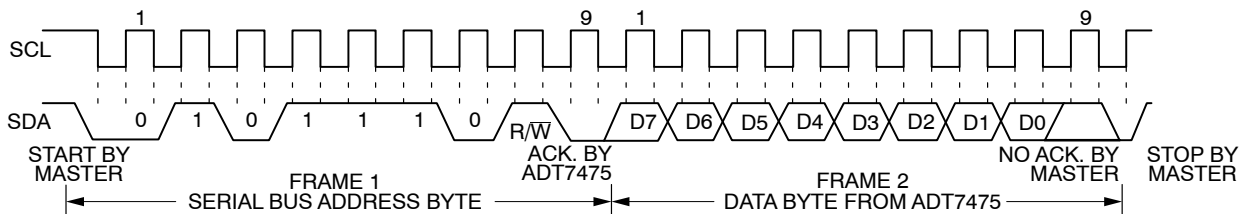

Figure 15. Reading Data from a Previously Selected Register
A read operation is then performed consisting of the serial bus address; the R/W bit set to 1, followed by the data byte read from the data register see Figure 15.
2. If the address pointer register is known to be already at the desired address, data can be read from the corresponding data register without first writing to the address pointer register see Figure 15.